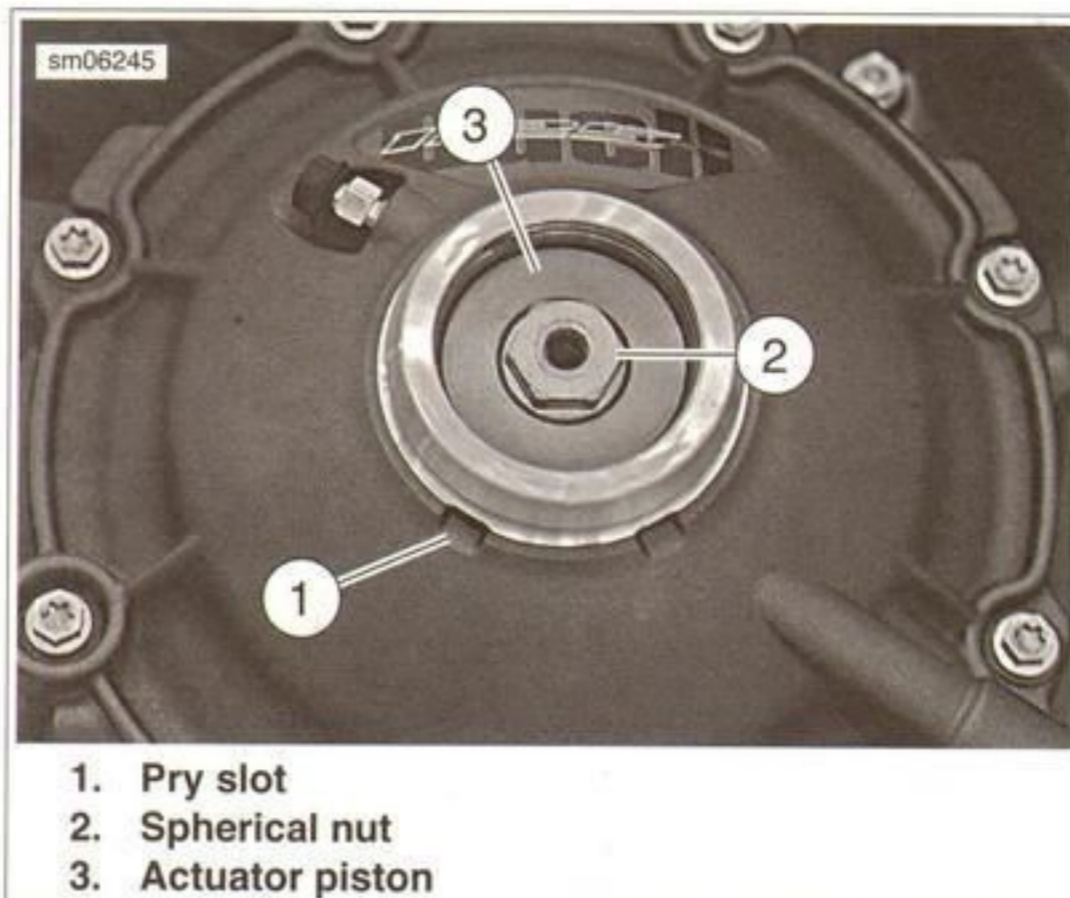

Figure 6-16. Clutch Release Pin Nut and Actuator Piston
See Figure 6-16. A spherical nut (2) holds the actuator piston (3) to the clutch release nut.